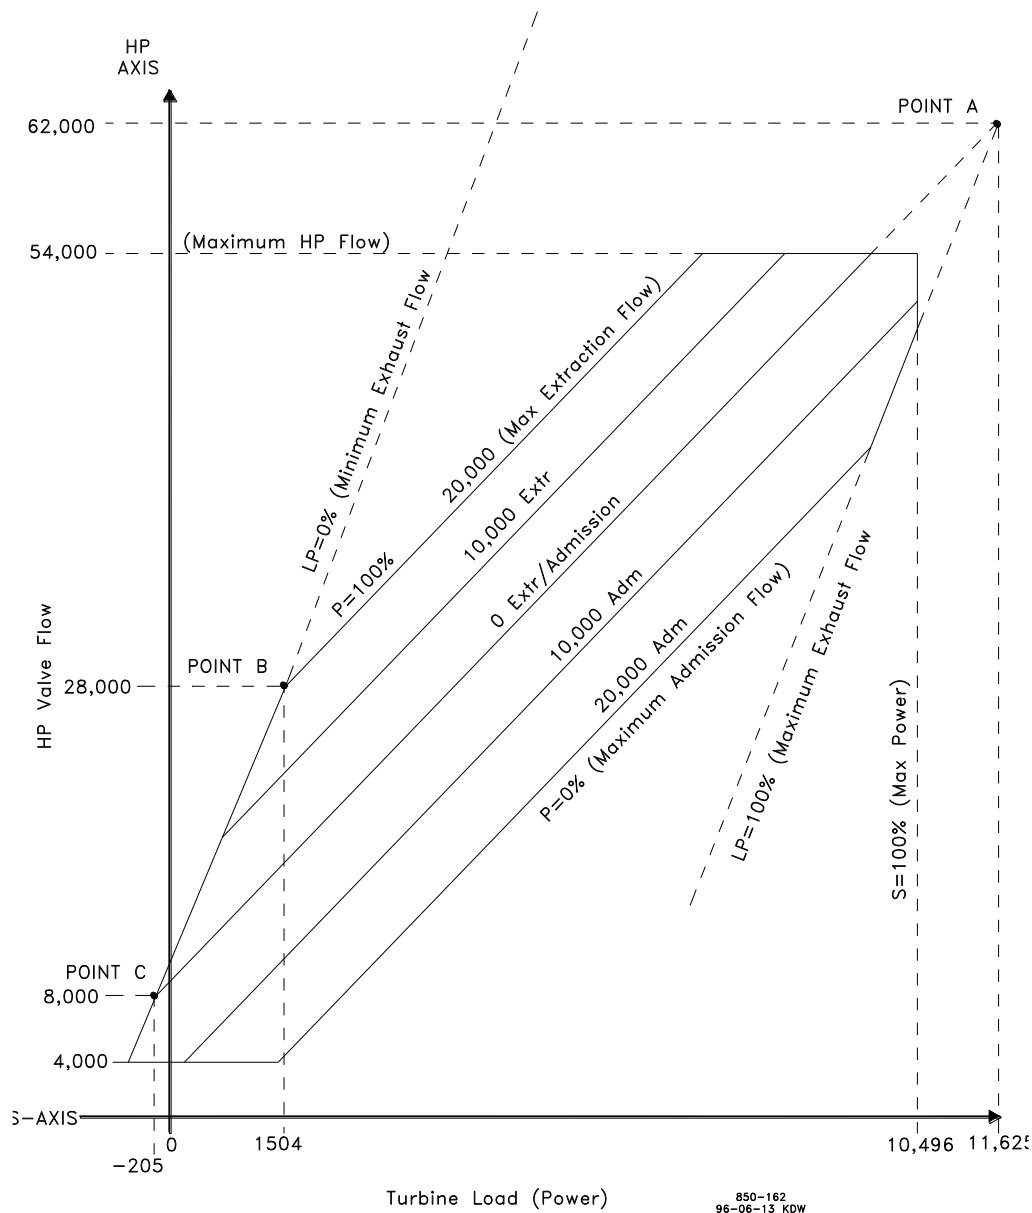

Figure 2-20. Typical Extraction & Admission Steam Map
Before a turbine's extraction/admission steam map can be programmed into the control, it must have the intersection points A, B, & C (refer to Figure 2-20).
If points B & C do not exist, your map will have to be modified to include points B & C. The LP=0 line will need to be created. To create the LP=0 line you must know the minimum required steam flow through the back-end of the turbine. In our example steam map (Figure 2-20) the minimum required flow was 8000 lb/h (3629 kg/h).
1. Extend the maximum extraction line. Refer to Figure 2-20.